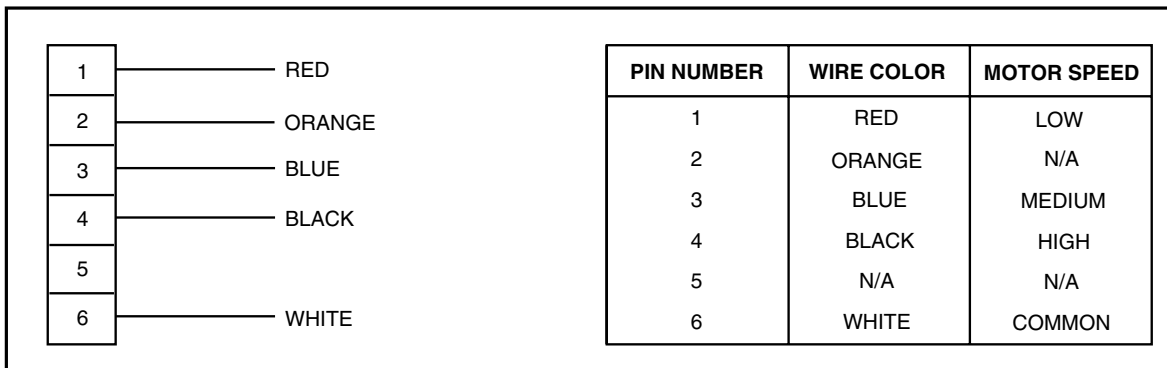

Figure 9. Motor Lead Connector
2. Remove the motor lead from terminal #4 of the blower relay. Cut the wire tie holding the motor lead bundle. The motor leads are color coded as shown in **Figure 9**.